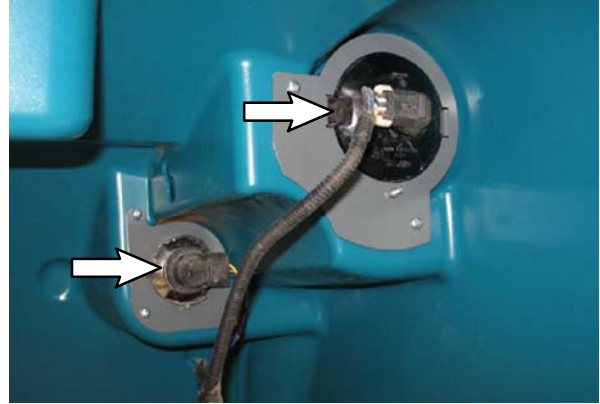

FIG. 8
14. Install the light harness into the headlights and signal lights. (Fig. 8)